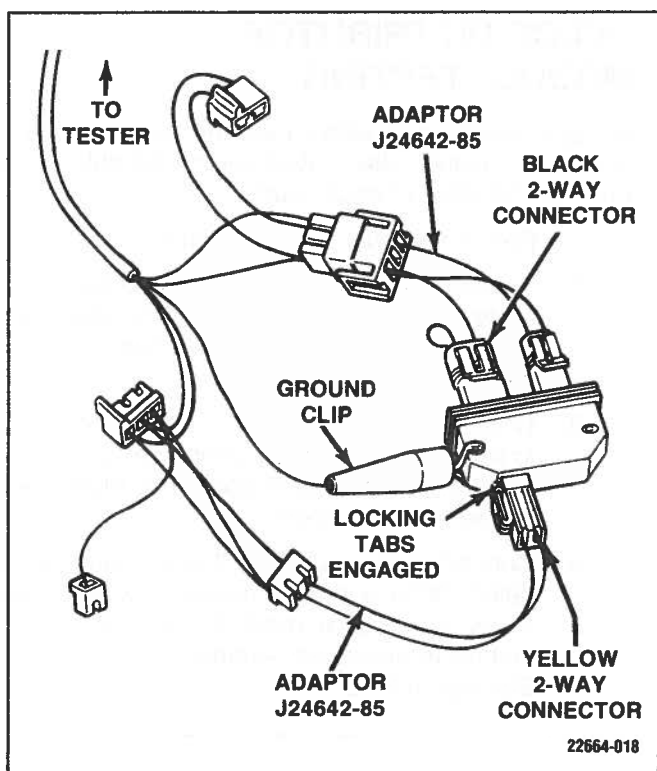

Figure 6-55. Test 1 Tester Connections
4. Connect black 4-way and 2-way connectors of detail 200 to module terminals. Connect yellow 2-way connector of detail 201 to yellow module terminals and engage locking tabs. See Figure 6-55.